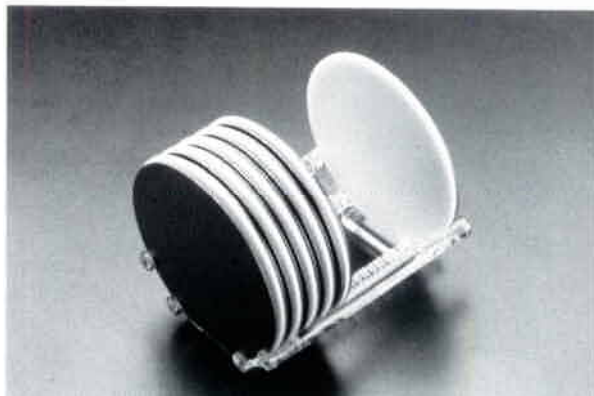

Figure 15
**Boats:** Although diffusion boats of various designs have been successfully used with the PhosPlus sources, the best results are normally obtained with a four-rail quartz boat having a design as shown in Figure 15. When depositions are made above 1100°C, silicon carbide or polysilicon boats are often preferred because of their increased resistance to deformation. Boats made of any of these materials fit on standard paddles and cantilever systems and can be used in automatic transfer systems. The spacing between the silicon surface and the source surface should be constant and should be between 0.060" and 0.100". The slots for the sources should be about 0.010" wider than their thickness. The sources should fit loosely in the boat, allowing room for expansion of at least 0.010" per inch of diameter.